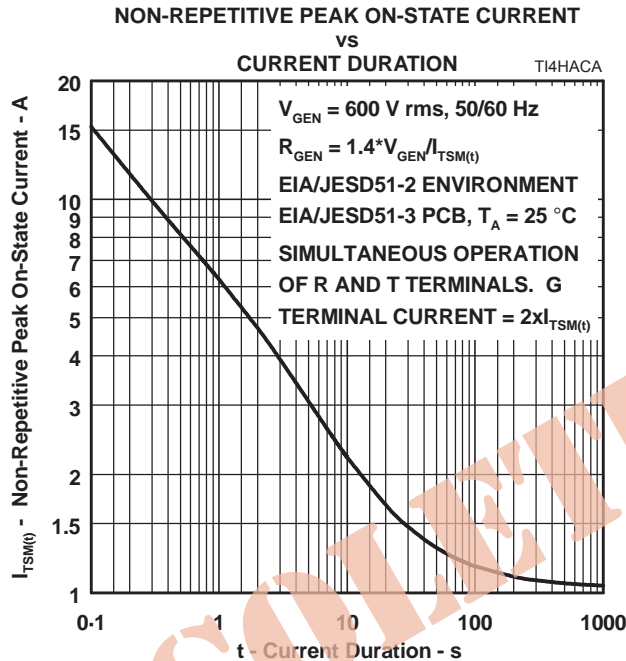

Figure 8.
5. EIA/JESD51-2 environment and EIA/JESD51-3 PCB with standard footprint dimensions connected with 5 A rated printed wiring track widths. See Figure 8 for the current ratings at other durations. Figure 8 shows the R and T terminal current rating for simultaneous operation. In this condition, the G terminal current will be $2 \times I_{TSM(t)}$, the sum of the R and T terminal currents. Derate current values at $-0.61\text{ }^\circ\text{C}$ for ambient temperatures above 25 $^\circ\text{C}$.
The protector can withstand the G return currents applied for times not exceeding those shown in Figure 8. Currents that exceed these times must be terminated or reduced to avoid protector failure. Fuses, PTC (Positive Temperature Coefficient) resistors and fusible resistors are overcurrent protection devices which can be used to reduce the current flow. Protective fuses may range from a few hundred milliamperes to one ampere. In some cases, it may be necessary to add some extra series resistance to prevent the fuse opening during impulse testing. The current versus time characteristic of the overcurrent protector must be below the line shown in Figure 8. In some cases, there may be a further time limit imposed by the test standard (e.g. UL 1459 wiring simulator failure).